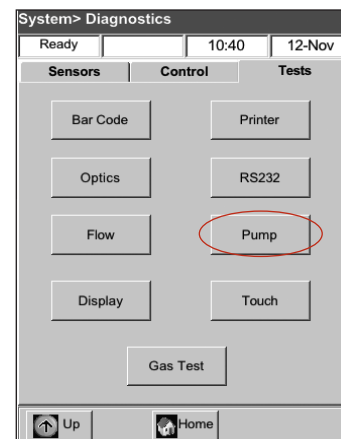

Figure I-6: System > Diagnostics > Tests > Pump
- Tap **Pump** (Figure I-6) to test the pump motor. The pump should rotate smoothly without excessive noise. This diagnostic test automatically steps through all the speeds used during normal operation (50–800 rpm) and then returns to the **Diagnostics > Tests** tab.